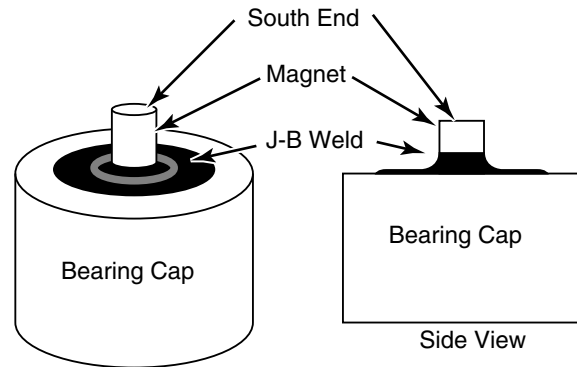

Figure 2
10. Apply a small amount of J-B Weld onto the end of the bearing cap. With the south side of the magnet facing away from the J-B Weld and bearing cap, place the magnet in the center of the J-B Weld on the bearing cap as shown. (See Figure 2.)